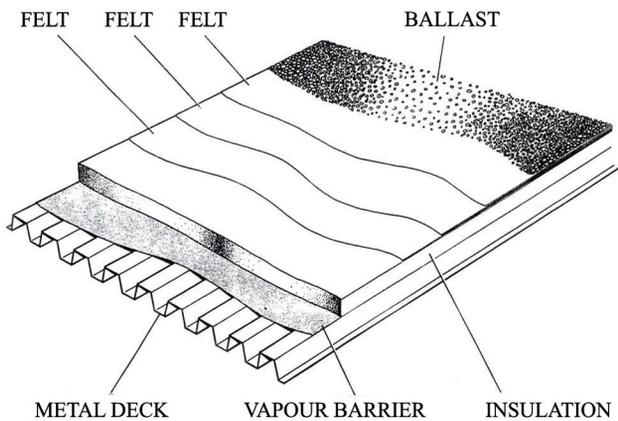

Figure 6. Typical Built-Up Roof on metal deck.
1. Built-up-Roofing Systems (BURs): Comprising of 3 or 4 layers of roofing felt, with bitumen adhesive between each layer. ( Fig.6 ). Problems include: